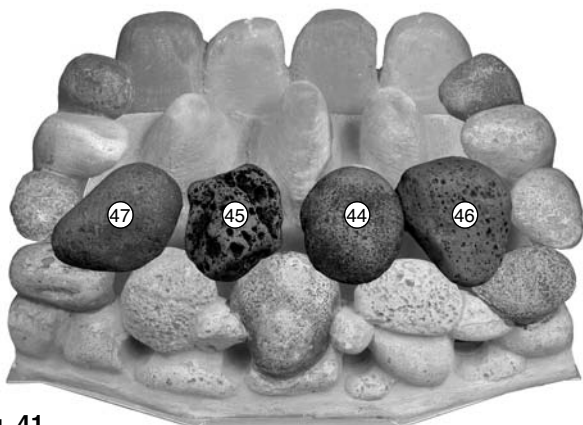

Fig. 41
5. Following Figs. 41 to 43, place the loose pebbles on to the fuel bed. It is important that the pebbles 'nest' together and sit on top of the fuel bed peaks.